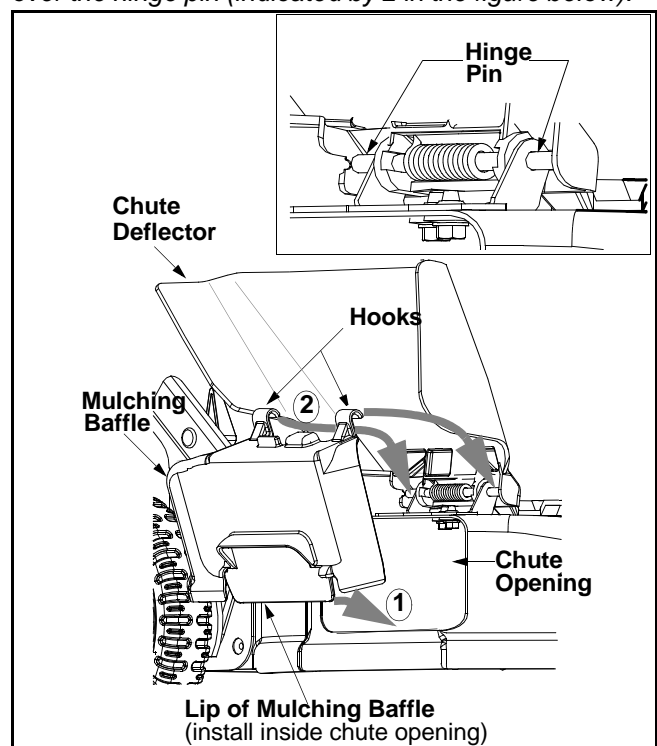

Figure 9
- Insert bottom lip of the mulching baffle **inside** the chute opening. See Figure 9.
- Snap hooks of the mulching baffle over the hinge pin of the chute deflector. See Figure 9. The hooks must snap into place on the hinge pin, locking the mulching baffle firmly onto the mower. For a close-up of the hinge pin location, see Figure 9 inset.